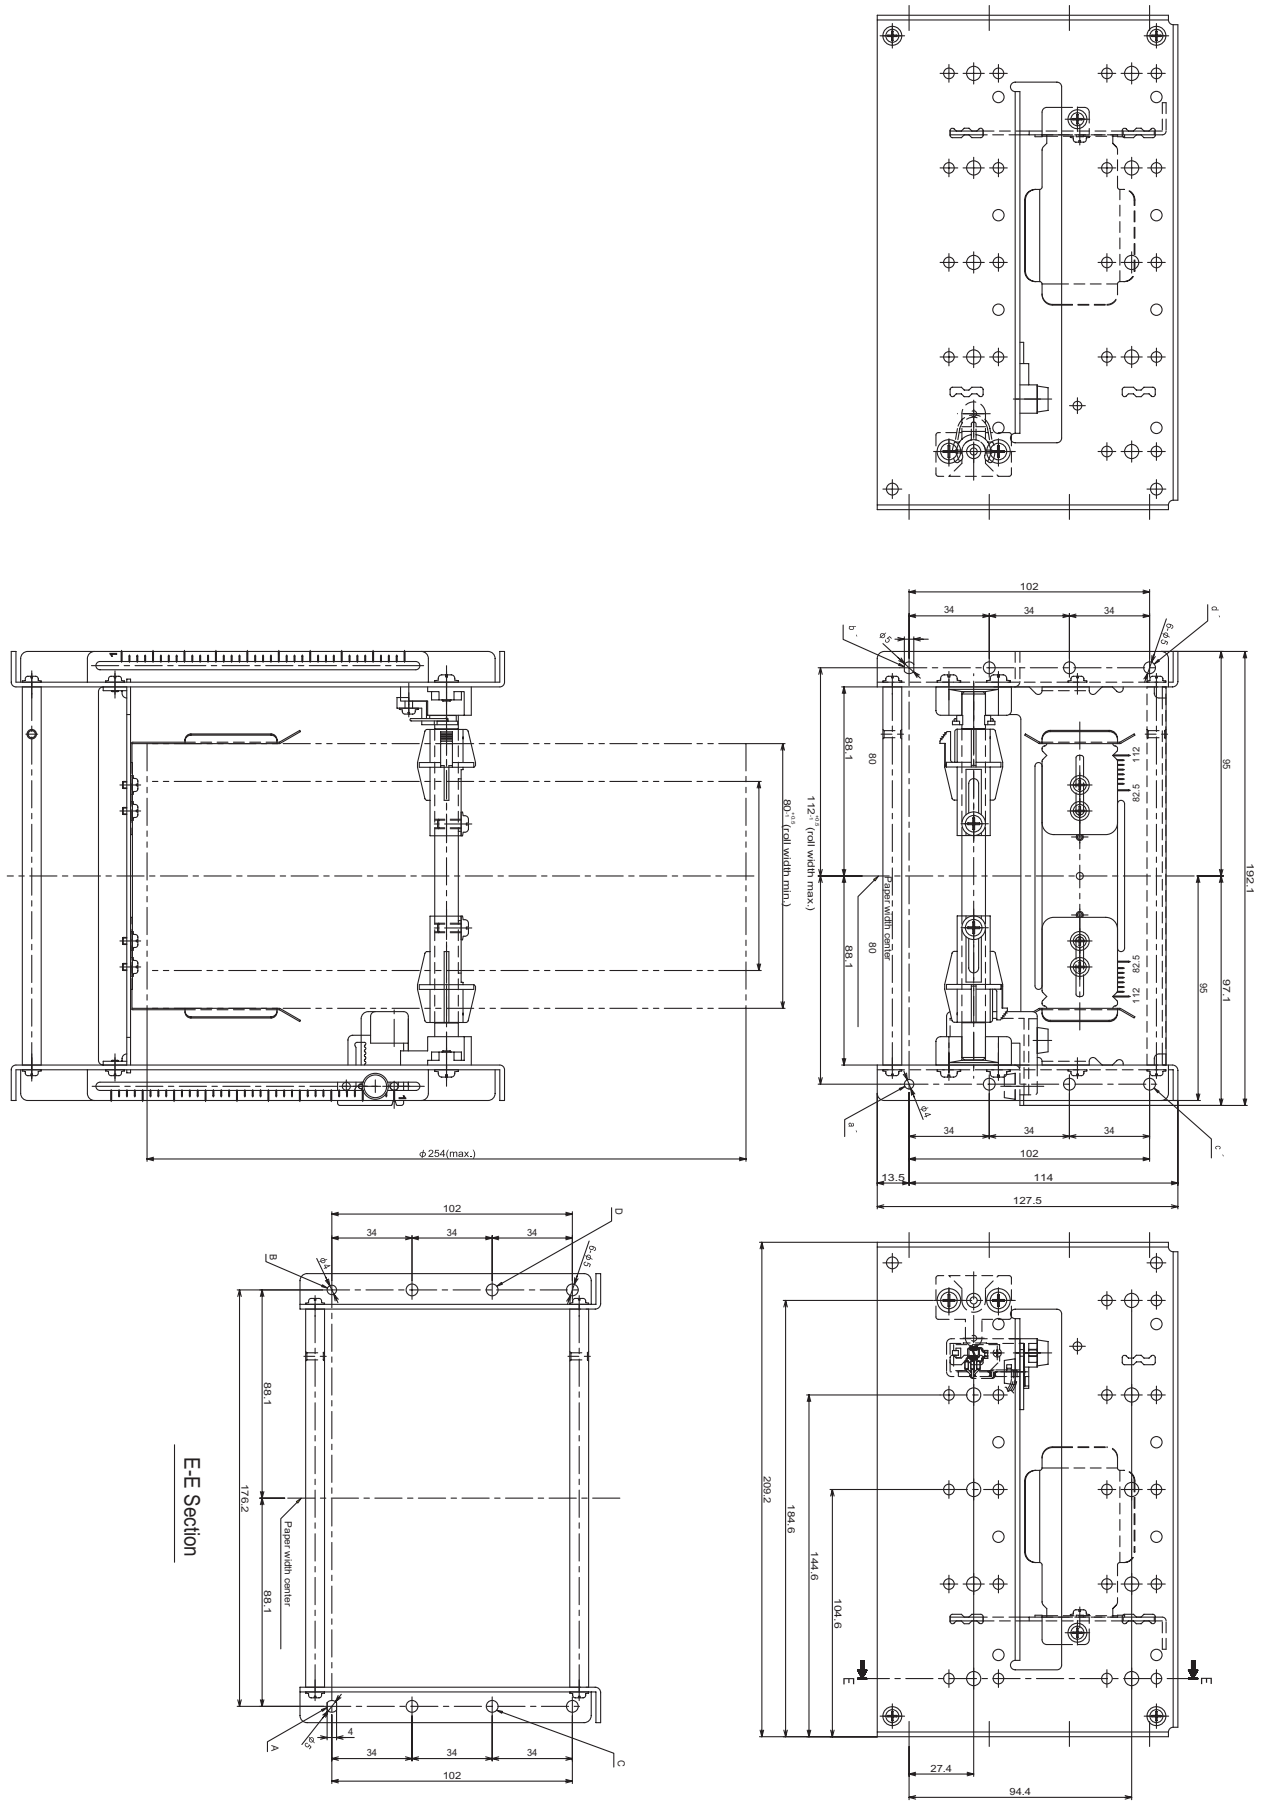

Fig. 7.2 RHU-T900 External Dimensions Diagrams
Fig. 7.2 on the separate sheet shows an external drawing of use of the high volume paper roll supply (RHU-T900).
3) The external drawing of Fig. 7.2 is an example of the assembly. Be aware that there are some parts that are not included in the RHU-T900.
Use the four holes A, B, C and D shown in the external drawing of Fig. 7.2, to fasten the unit.
Use the printer unit holes a, b, c and d (see Fig. 4.1.2 A and 4.1.2B) and the RHU-T900 unit holes a', b', c' and d' (see Fig. 7.2) to fasten both units. When doing so, align a with a', b with b', c with c' and d with d' for assembly.